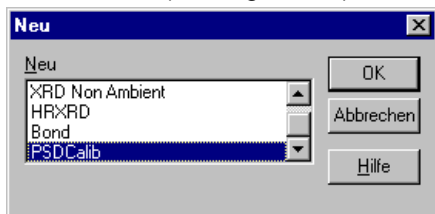

Figure 7.1 - Wizard > File > New
3. Select **PSDCalib** from the new menu files. Click **OK** (see Figure 7.1).